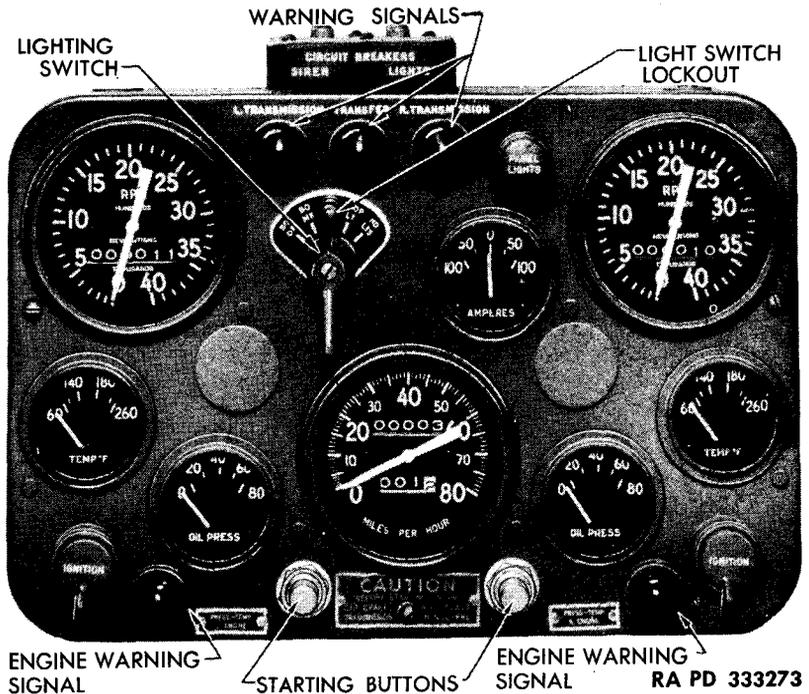

Figure 11 - Instrument Panel - Second Type
a. **General.** Instrument panels of two different designs have been used on these vehicles. The first design is illustrated in figure 10. The second type panel (fig. 11), used on late type vehicles, has a lighting switch of different design, and a manually reset circuit breaker for the lights. The warning signals are rearranged, and the voltmeter is eliminated.